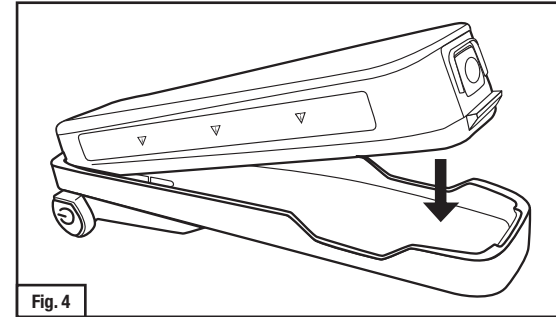

Fig. 4
2. Insert the TR-630 battery pack into the TR-659 battery adapter by sliding the hinged side of the battery into the corresponding side of the adapter (side with power button) (Fig. 4).